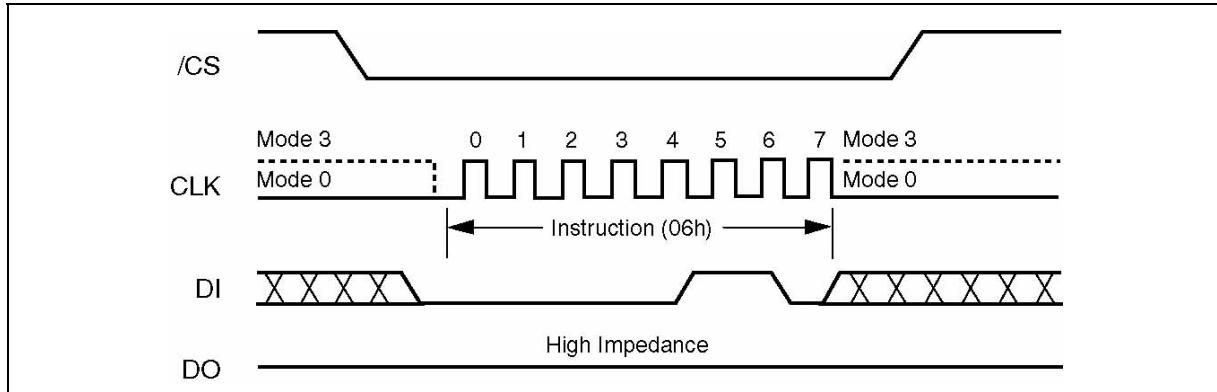

Figure 5. Write Enable Instruction Sequence Diagram
The Write Enable instruction (Figure 5) sets the Write Enable Latch (WEL) bit in the Status Register to a 1. The WEL bit must be set prior to every Page Program, Sector Erase, Chip Erase and Write Status Register instruction. The Write Enable instruction is entered by driving /CS low, shifting the instruction code “06h” into the Data Input (DI) pin on the rising edge of CLK, and then driving /CS high.